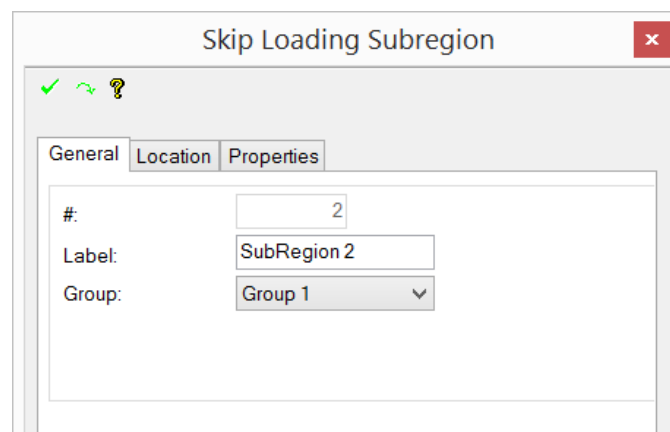

Figure 7.2-5 - Skip Loading Subregion Properties Box
- Open the properties box (**Fig. 7.2-5**) of each skip sub-region by double clicking on its hot spot (circle displayed in its middle). Alternatively, select a skip region and then invoke its properties box by clicking on “Item’s Properties” tool.